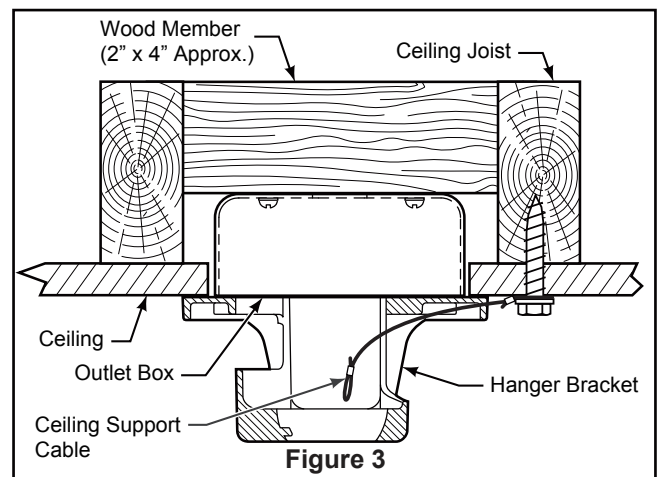

Figure 3
Your new ceiling fan will require a grounded electrical supply line of 120 volts AC, 60 HZ, 15 Amp Circuit. Electrical code requires use of a fan-rated outlet box to support the extra weight and motion associated with a ceiling fan. A fan-rated box will be labeled as such and typically supports up to a 70lb ceiling fan. Fan-Rated Outlet Boxes vary in ratings and design. Ensure the ratings of your ceiling fan outlet box meet the requirements for the ceiling fan being installed. Figure 1, Figure 2 and Figure 3 depicts different structural configurations that may be used for mounting the outlet box.
Deep box with brace (Figure 3)
3. Remove the hairpin clip and clevis pin from the bottom of the downrod. Retain the pin and clip for reinstallation in Step 5. (Figure 3)
1. Securely attach the hanger bracket to the outlet box using the outlet box screws and washers supplied with the fan. (Figure 3)
2. Drill a 1/4" pilot hole into the building structure to prevent splitting or cracking with installation of the lag bolt. Using the 3/8" x 2" lag bolt and flat washer, attach safety cable to ceiling joist or wood structural member. The lag bolt will pass through the flat washer, safety cable loop, and into the building structure. (Figure 3)
NOTE: Ceiling support cable cannot be secured to outlet box only, it must be directly secured to ceiling joist or structural member using the 3/8" x 2" lag bolt and flat washer. (Figure 3)
- 2. Slide the receiver into the hanger bracket before wiring as shown in figure 3.
3. Remove the battery cover from remote control by screwdriver and retain the screw for later. (Figure 3)